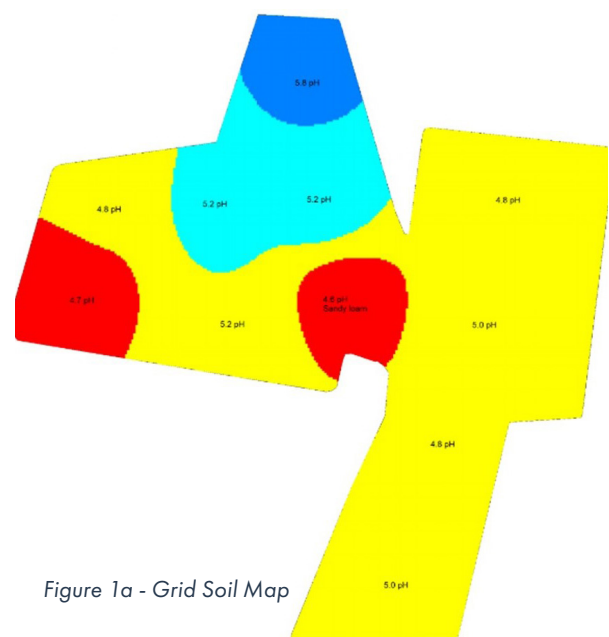
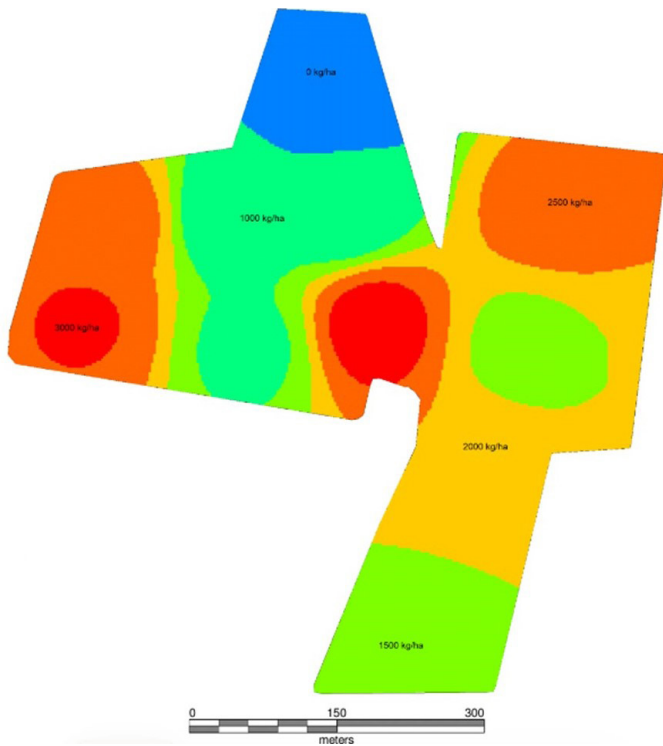

Figure 1a - Grid Soil Map
Figure 1b - Variable Rate prescription map
in *Fig. 1a*) which are easily transformed into variable rate prescription files (*Fig. 1b*) for use in spreading machinery. Tim also performs a complete pasture renovation on one of the paddocks each year, using the maps as a guide for this process.
*Fig. 1a* is an example of one paddock that varied from pH 4.6 (very acidic) up to 5.8. A conventional soil test on a transect would have returned the average pH of 5.0, hiding the extent of the issue and contributing to the decline of acid-sensitive clovers across large parts of the paddock.